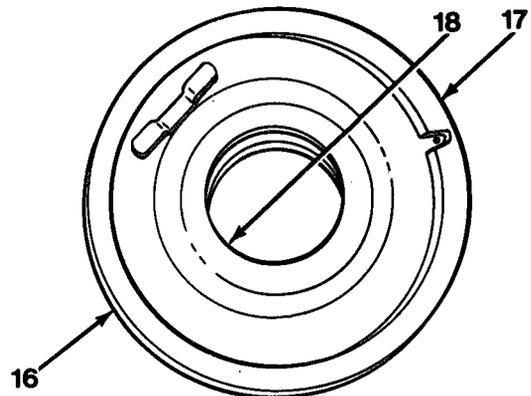

Figure 11-5
11. Remove snap ring retainer (14) four springs (12) and thrust washer (15).
12. Remove clutch piston (16) from clutch shaft assembly (2).
13. Remove and discard outer piston seal (17) and inner O-ring (18) from clutch piston (16, Figure 11-5).